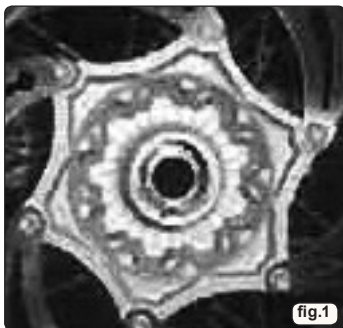

fig.1
3.1. Prepare Wheel Bearing for Removal (fig.1)